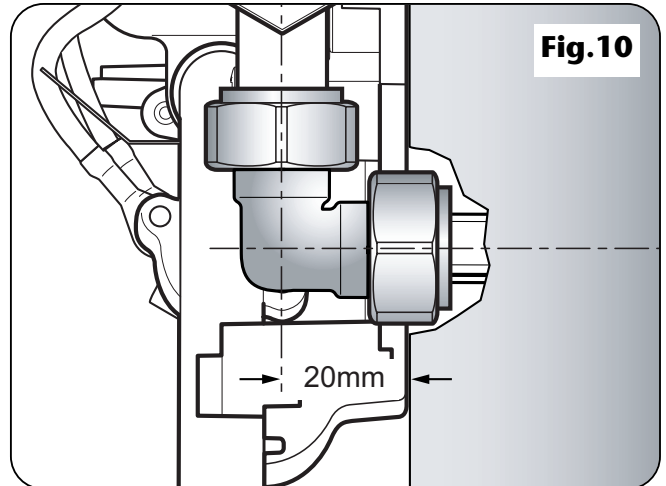

Fig.10
If installing a feed pipe from the rear, bottom or side the centre of the inlet valve to the wall surface is 20mm (**fig. 10**).
**Note:** If entry is from the rear, the nut of the compression fitting will be partially behind the surface of the wall (**fig. 10**). This area MUST be left clear when plastering over the pipework in order to make the nut accessible for future adjustments.